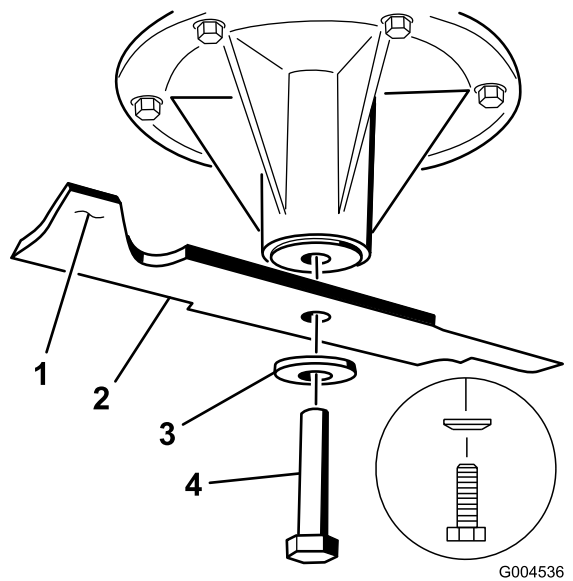

Figure 97
1. Install the blade onto the spindle shaft (Figure 97).
2. Install the spring disk and blade bolt (Figure 97).
Note: The spring-disk cone must be installed toward the bolt head (Figure 97).